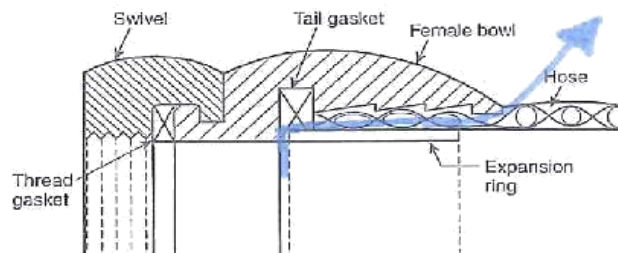

FIGURE A.7.1.9.2 Female Coupling Assembly.
A.7.1.9.2 The length of the expansion ring needs to be consistent with the length of the coupling bowl. (See Figure A.7.1.9.2.)